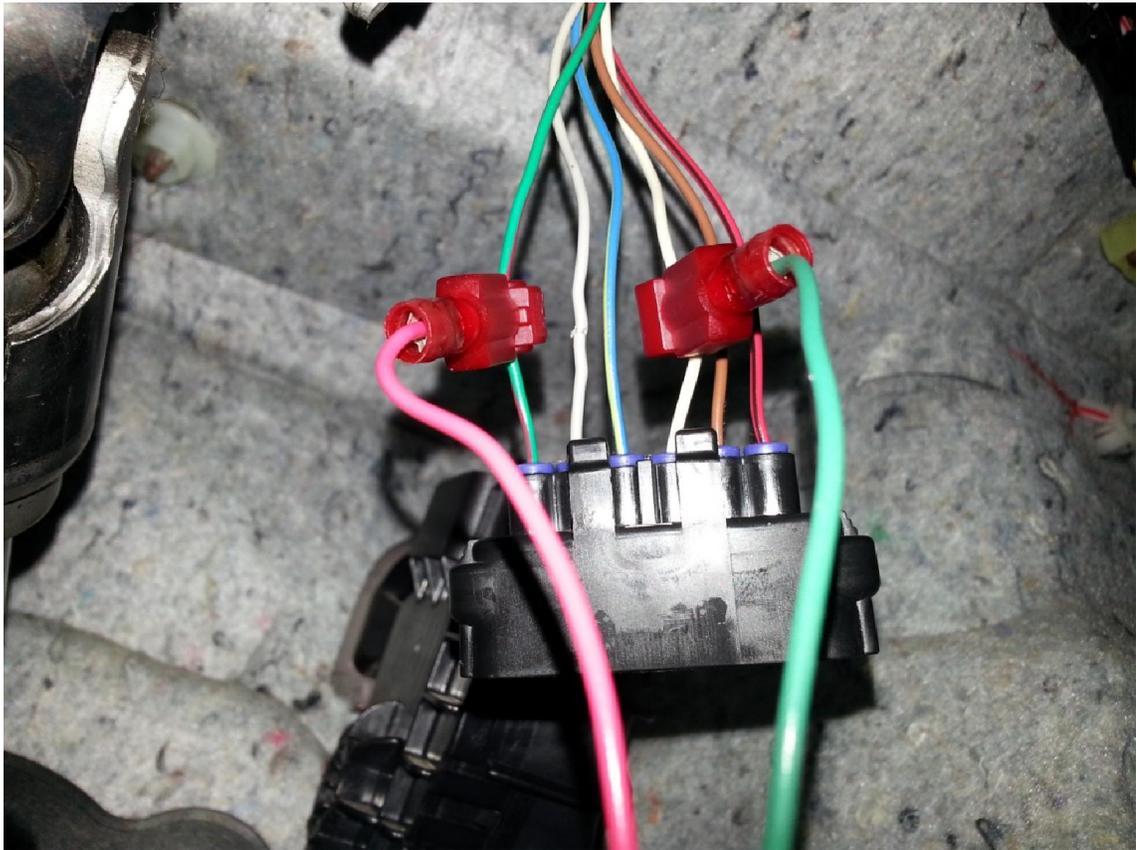

Figure 2 (Accelerator Pedal Position Sensor wire tabs placement)
2. Attach supplied wiretaps, one each, to the **white** and **green/red** wires on the APPS sensor (**Figure 2**).